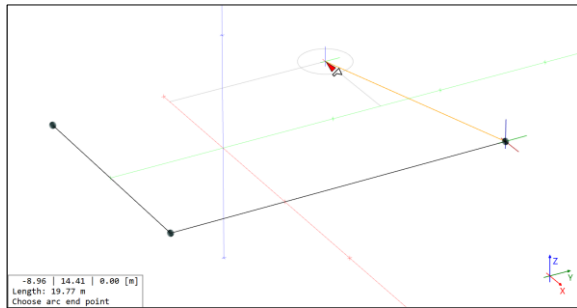

Figure 7.15 Setting the end point of the arc after activating the submode.
2. The end point of the arc (Figure 7.15). This is the first location that has to be chosen after activating the arc submode. It can be at any 3D coordinates.